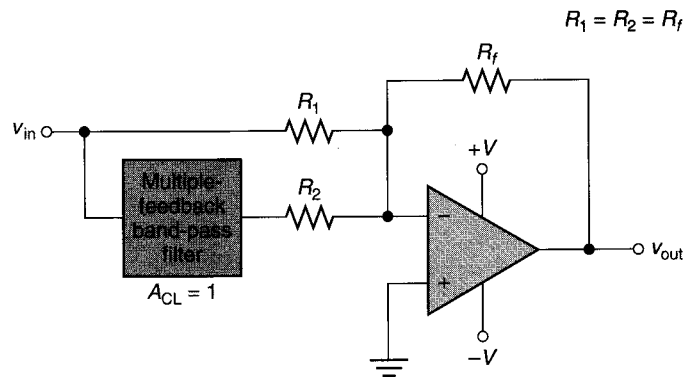

FIGURE 17.64
36. Figure 17.64 shows a *notch* filter that consists of a multiple-feedback band-pass filter and a summing amplifier. Using your knowledge of these circuits, describe the response of the filter to frequencies below, within, and above its bandwidth.